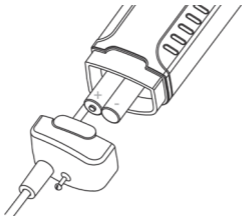

Figure 10
4. Install two new 1,5V batteries (AAA or equivalent) into the battery compartment, make sure that the polarity connections are correct (refer to figure 10).